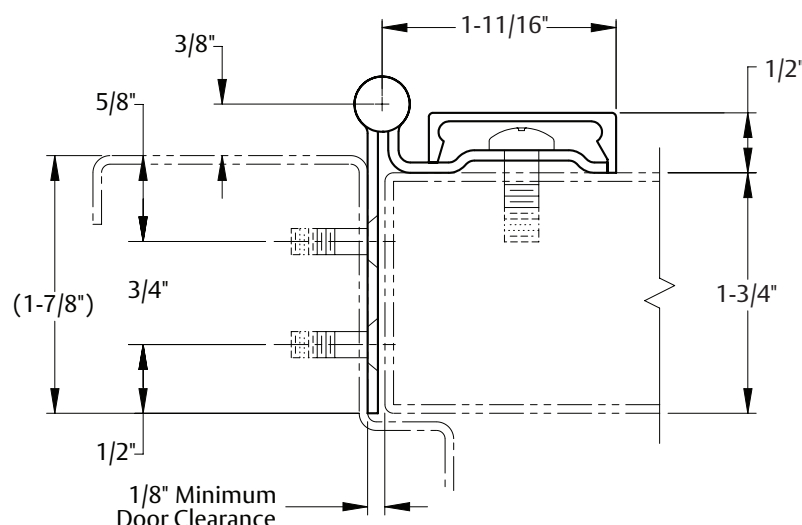

FIG 1: HINGE PLACEMENT & CLEARANCE TEMPLATE
- Place hinge on frame. Position top of hinge  $\frac{1}{8}$ " maximum below header. Allow  $\frac{1}{16}$ " between stop and edge of hinge (Fig. 1).